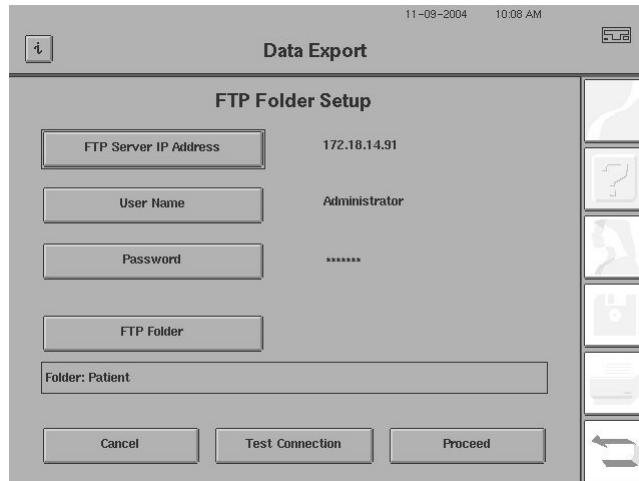

Figure I.11 Completed FTP Folder Setup Screen
- 8 Once you have completed all of the entries, the screen will appear as is shown in Figure I.11. Use it to verify the accuracy of the entries that you made.